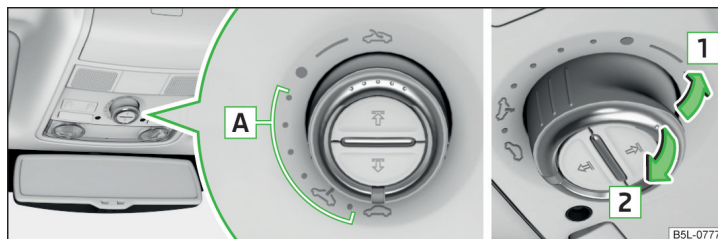

Fig. 40 Operation of the sliding/tilting roof
Operation of the tilt / slide sunroof » Fig. 40
If the tilt / slide sunroof is closed, by pulling on the recess of the switch in the direction of arrow **Z**, » Fig. 40 on page 56 and the closing process is hindered by an obstacle, then at the third attempt at closing, the force limitation will cease to function (if less than 5 s passes between the individual attempts to close). The tilt / slide sunroof closes with full force - There is a risk of injury.
- Turn on the ignition and set the switch to position  » Fig. 40 on page 56.